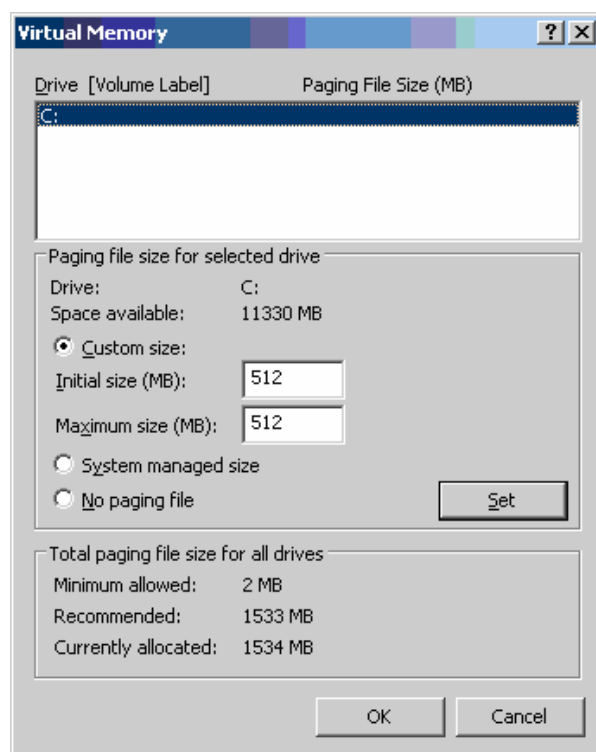

Figure 1-190. Virtual Memory Settings Dialog
- f. Click on **Change** in the Virtual memory section. The "Virtual Memory" popup is displayed (Figure 1-190).
- g. In the "Initial size (MB):" field, change the existing value to **512**.
- h. In the "Maximum size (MB):" field, change the existing value to **512**.
- i. Click on **Set**. At the top of the dialog, the value for the "C:" drive "Paging File Size (MB)" changes to "512-512".